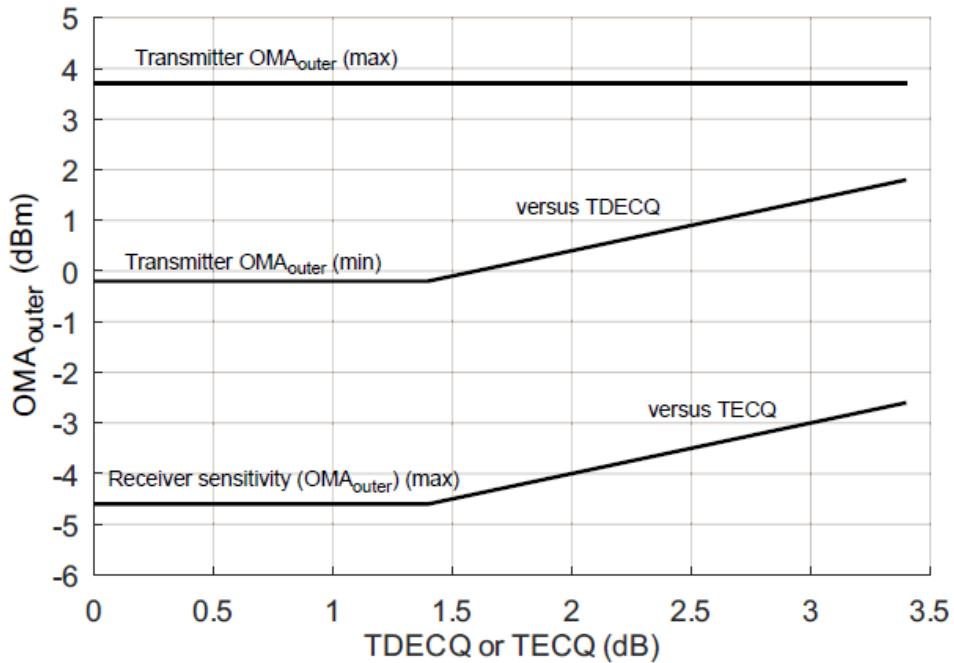

Figure 5. Illustration of Transmitter $\text{OMA}_{\text{outer}}$ and Receiver Sensitivity Mask for 2x400G-FR4
2. The values for OMA_{outer} each lane (min) vary with TDECQ. The relationships are illustrated in Figure 5 along with the values for OMA_{outer} each lane (max).
5. Receiver sensitivity (OMA_{outer}) is informative and is defined for a transmitter with a value of TECQ up to 3.4 dB. Receiver sensitivity should meet Equation (1), which is illustrated in Figure 5.